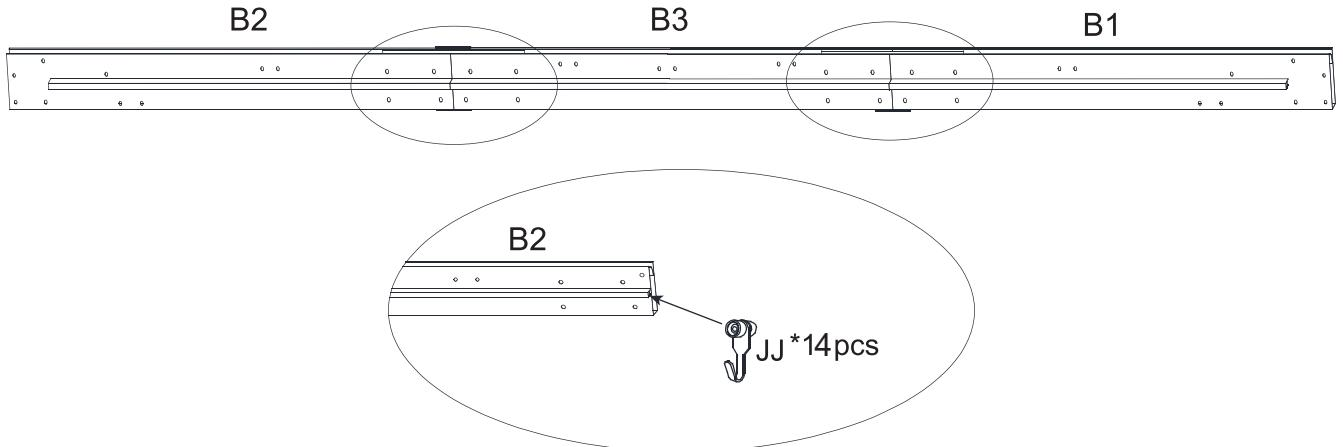

Figure 3.1
3.1. Slide the Hang Wheels (JJ) into the Lintel (B2). See Figure 3.1.